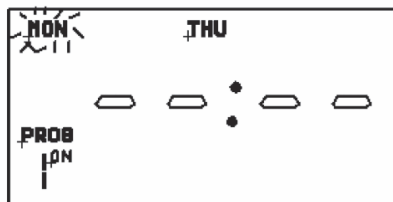

Figure B-12: Duplicating program
3. Press 'TIME' button then the icon 'MON' will be flashing. Refer to Figure B-12.